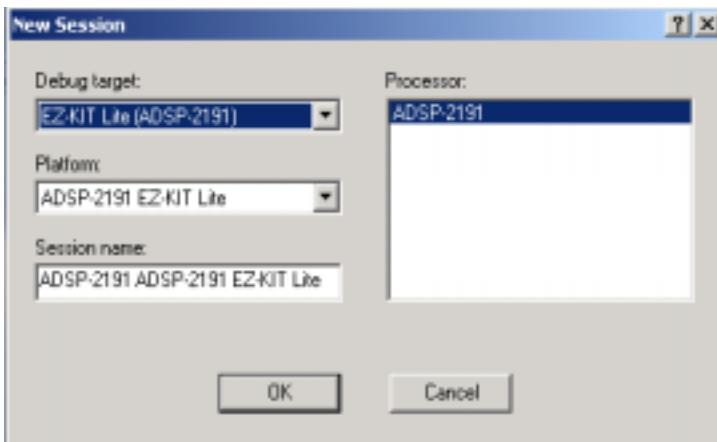

Figure 1-12. New Session Dialog Box
5. The New Session dialog box, shown in Figure 1-12, appears on the screen.